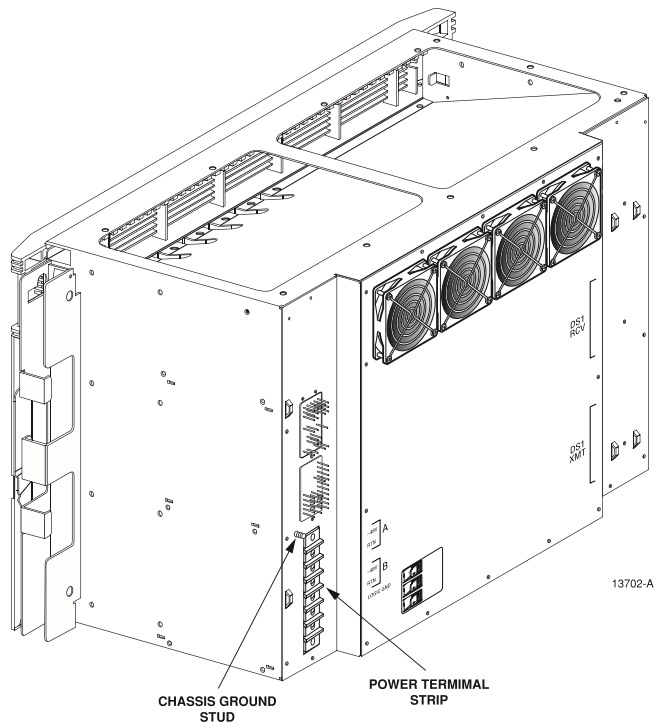

Figure 4-4. Chassis Ground Stud and Power Terminal Strip Location
3. Locate the chassis ground stud at the rear of the HDT chassis as shown in Figure 4-4.
3. Locate the power terminal at the rear of the HDT chassis (see Figure 4-4).